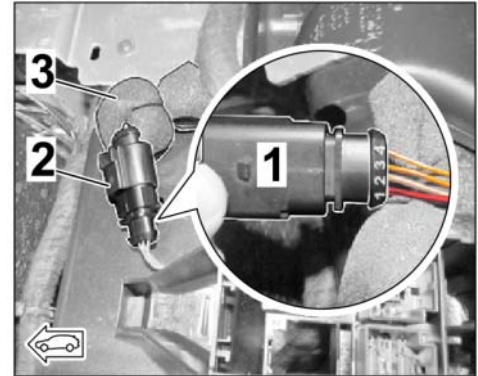

Figure 25
- 2.4.2 Connect the lines with pin contact and single-core seal (wire harness for engine noise) in the connector housing (4-pin, see parts list ⇒ *Figure 25 -Magnifier-*) as follows:
2.4.3 Lock connector housing (4-pin) and establish a plug connection to the connection point (⇒ *Figure 25*).